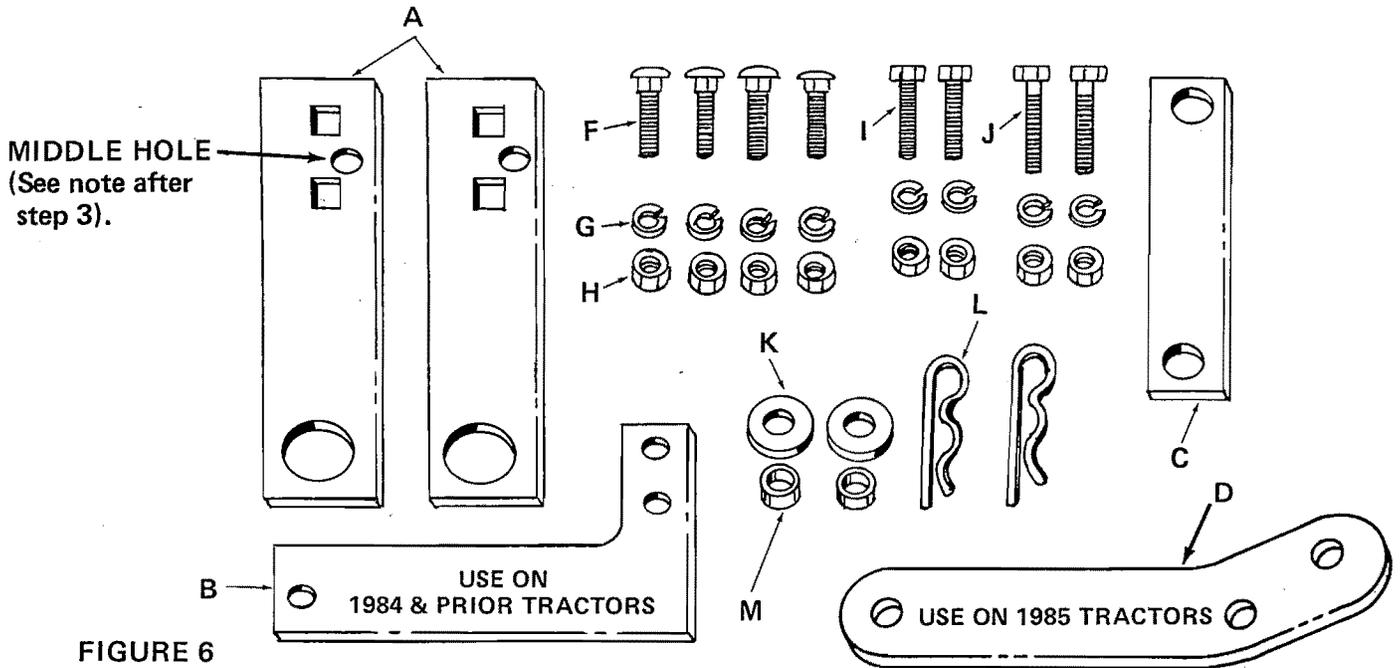
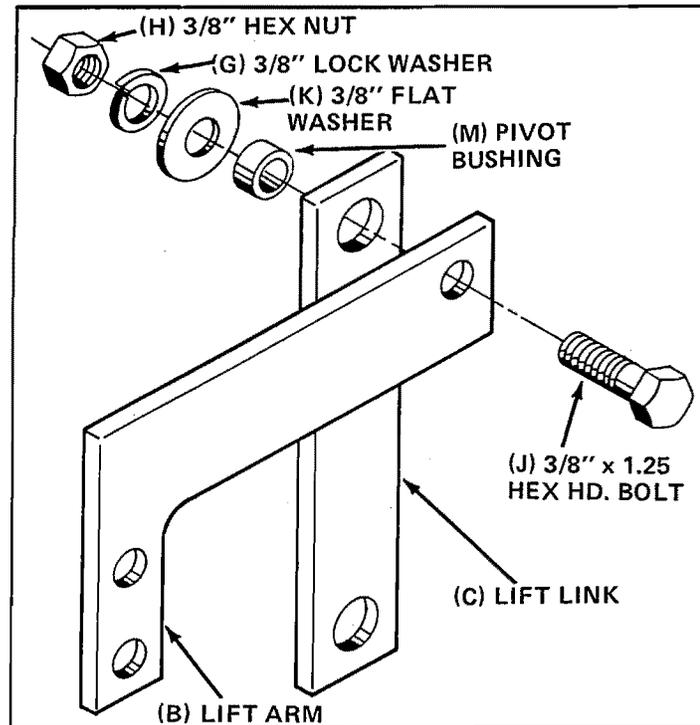
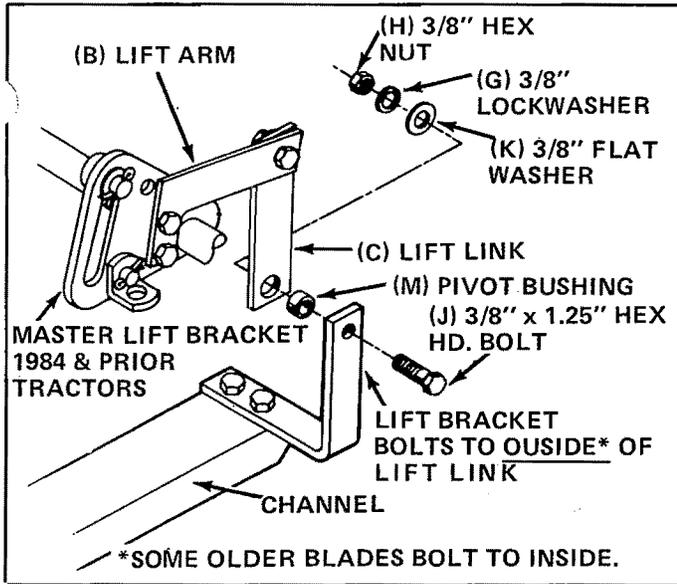

FIGURE 6
FIGURE 9A
FIGURE 12A
1. Arrange carton contents as shown in figure 6.
\*NOTE: 1984 and prior tractors may require only three 3/8" x 1.0" carriage bolts. A hex bolt can be removed from right hand side of tractor frame and reassembled through middle hole in mounting bracket (A). See figure 6. Some older style tractors use four 3/8" x 1.00" carriage bolts (F) to complete assembly.
Assemble lift arm (B) to lift link (C) using one 3/8" x 1.25" hex head bolt (J), 3/8" flat washer (K), pivot bushing (M), 3/8" lock washer (G) and 3/8" hex nut (H) as shown in figure 9A. See figures 6 and 9A.
Same as above except use lift arm (D). See figures 6 and 9B.
6. Assemble lift arm and lift link, sub-assembled in step 4, to master lift bracket using two 3/8" x 1.0" hex head bolts (I), 3/8" lock washers (G) and 3/8" hex nuts (H) as shown in figure 10A or B. See figures 6 and 10A or B.
9. Assemble channel cross shaft to mounting brackets by tilting channel and sliding one end of cross shaft through hole and pulling opposite end back. Secure with two hair pin cotters (L). See figures 6 and 11.
10. Connect lift link (C) to lift bracket at end of channel using one 3/8" x 1.25" hex head bolt (J) 3/8" flat washer (K), pivot bushing (M), 3/8" lock washer (G) and 3/8" hex nut (H) as shown in figure 12A or B. See figures 6 and 12A or B.